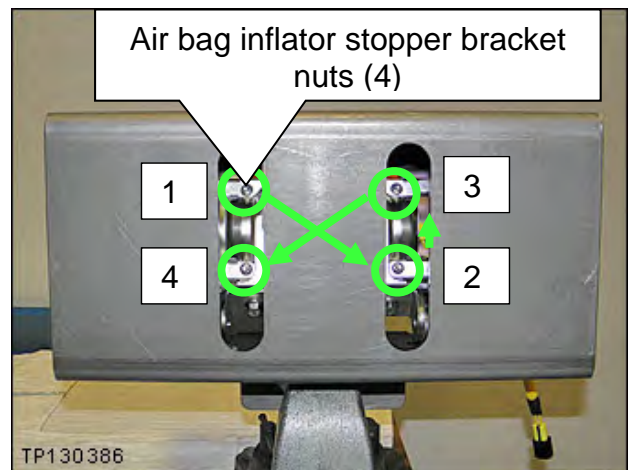

Figure 36
35. Torque the four (4) air bag inflator stopper bracket nuts in the sequence shown in Figure 36.